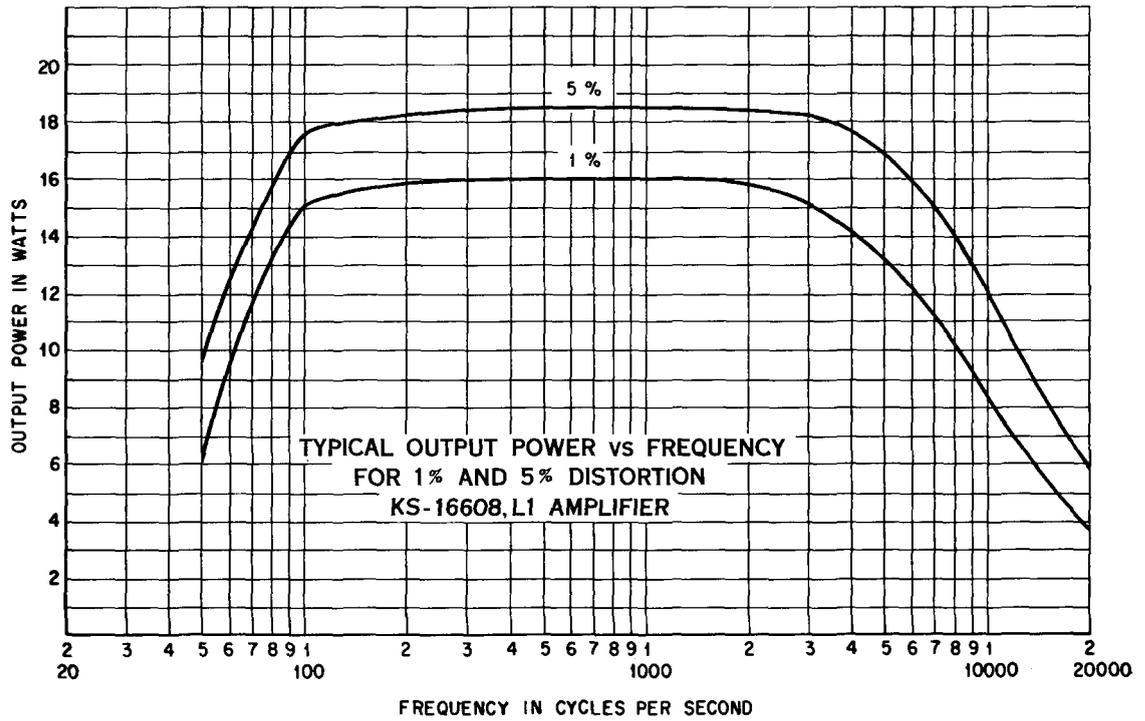

Fig. 6 - Output Power vs Frequency
6.03 Fig. 6 shows the power output characteristics of the amplifier for 1% and 5% distortion. The curves shown are typical for all the output impedances.